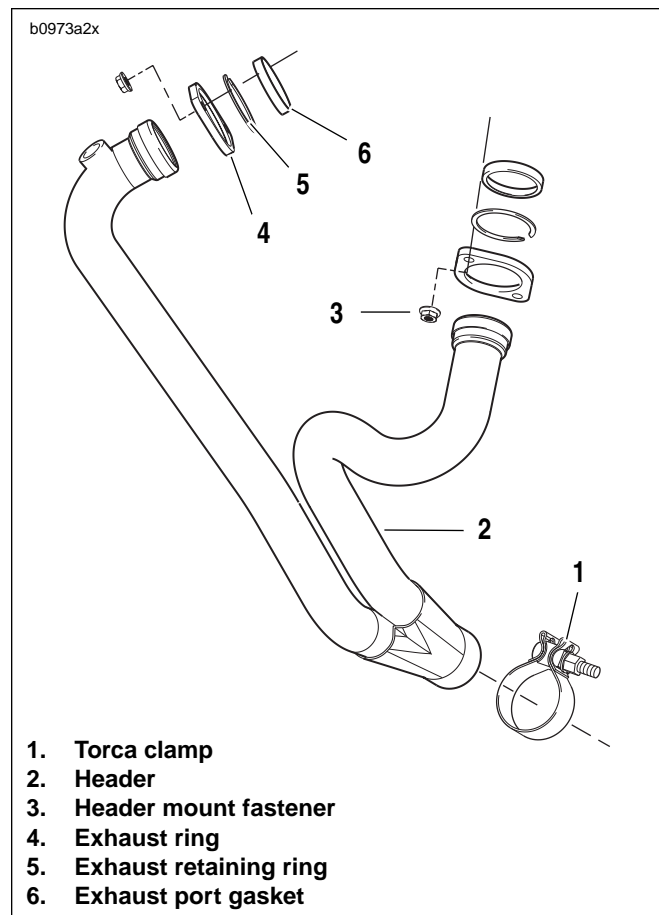

Figure 2-110. Exhaust Header
6. See Figure 2-110. Loosen Torca clamp (1) and lower muffler.
3. See Figure 2-110. Remove exhaust header (2) by removing mounting fasteners (3).
4. Remove exhaust ring (4), retaining ring (5) and port gasket (6).
1. See Figure 2-110. Install exhaust ring (4), retaining ring (5) and **new** port gasket (6).
2. Install exhaust header (2). Tighten mounting fasteners (3) to 72-96 **in-lbs** (8-11 Nm).
4. See Figure 2-110. Tighten the Torca clamp (1) to 28-30 ft-lbs (38-40.6Nm).